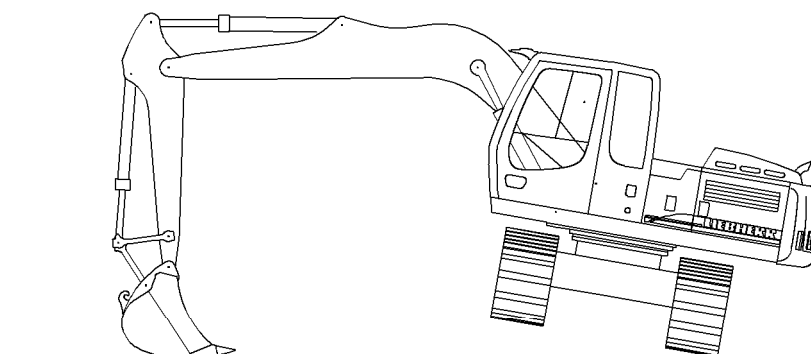

Fig. 5-53 Raising the machine
- ▶ By using the work equipment to support the machine at the side, one side of the chassis can be raised to clean the running gear (siehe Fig. 5-53).